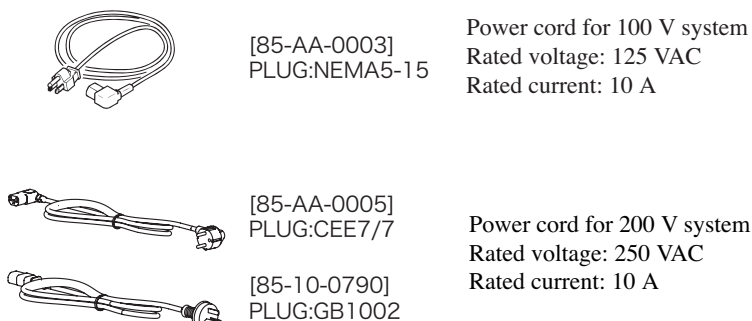

Fig. 1-3 AC power cord
**⚠ WARNING** • The AC power cord for 100 V system shown in Fig.1-3 has a rated voltage of 125 V AC. If this AC power cord is used at the line voltage of a 200 V system, replace the power cord with that satisfying that line voltage.